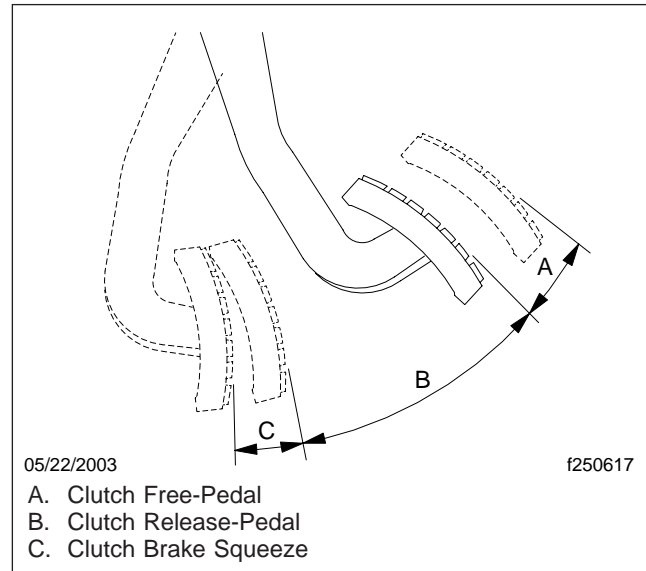

Fig. 2, Clutch Pedal Movement
4. While pushing the pedal to the point of clutch brake squeeze (Fig. 2), check the SAM Cab Template. Does the actuation of the pedal switch register? The actuation of the pedal is registered when the "Bottom of Clutch Circuit" indicator turns green and reads "At Bottom," as shown in Fig. 3.